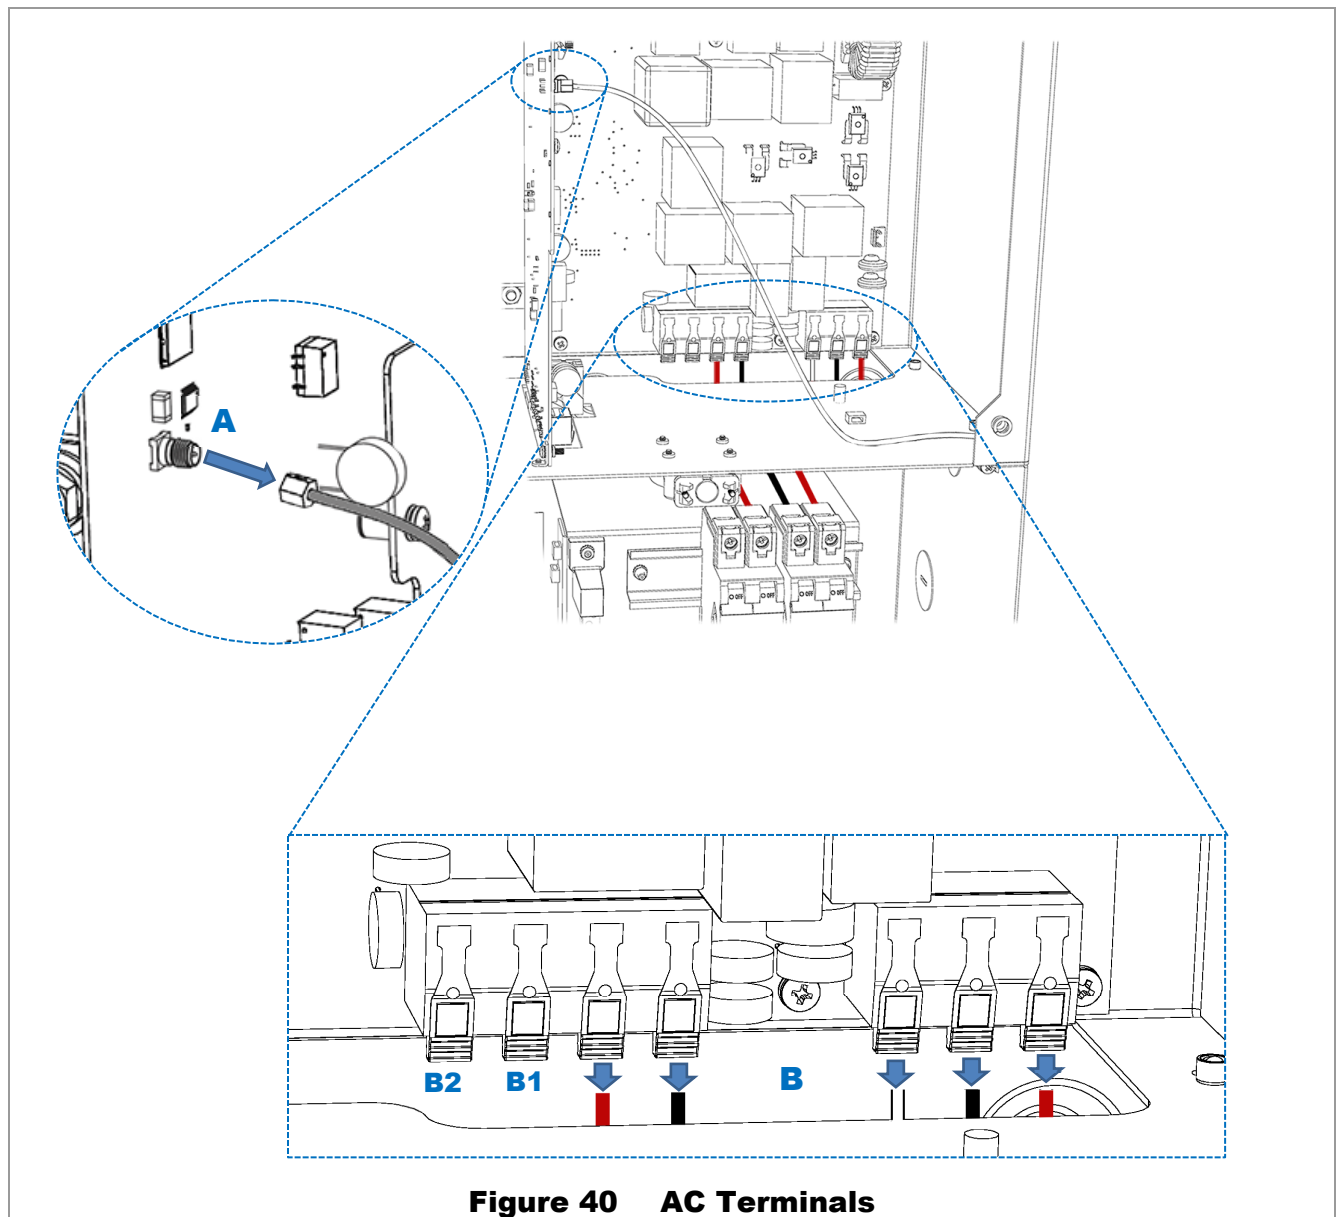

Figure 40 AC Terminals
1. Before beginning, remove the SMA cable for the antenna wire. See **A** in Figure 40. Note that this is not a required step for board replacement, but will make access to the board easier.
- Replace the AC wires **B** and the SMA cable **A**. See Figure 40 if necessary. After latching, tug on the wires to ensure that they are secure.